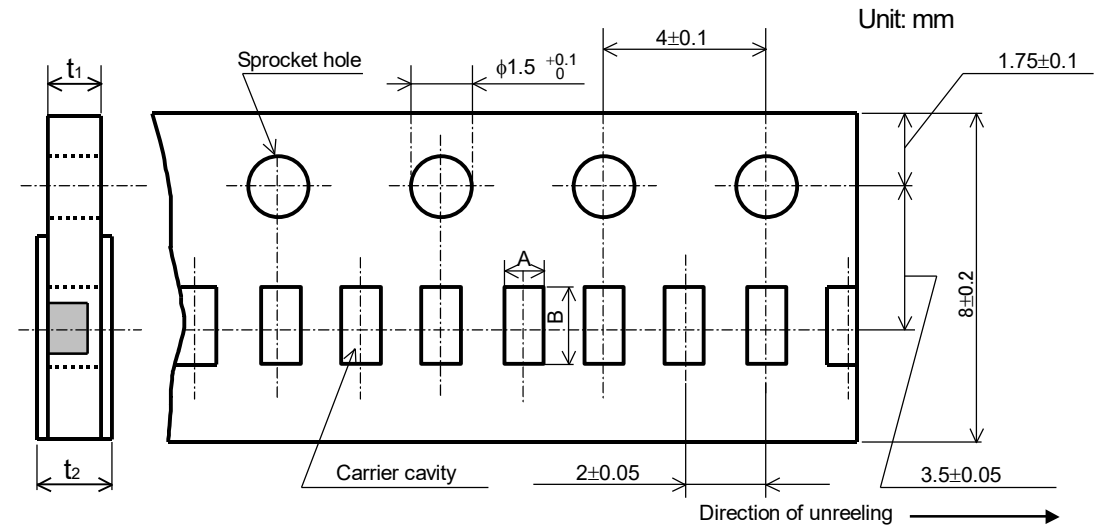

Figure-4
- Taping dimensions shall be in accordance with Figure-4 and Table-6.